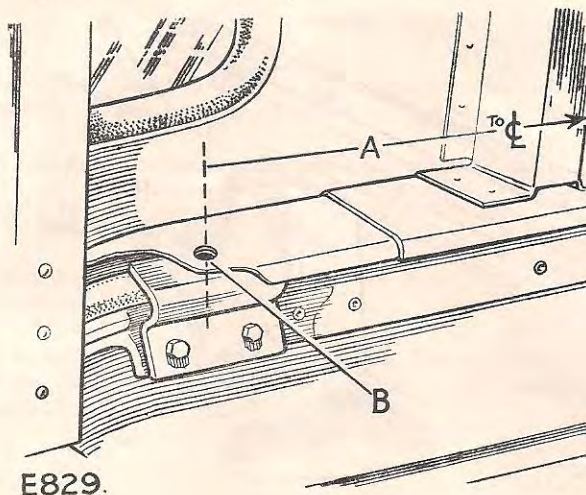

Fig. 12. Cab mounting assembly in position. R.H. illustrated.
8. Remove the outboard distance piece, securing cab to the bulkhead capping, a distance of $24\frac{3}{4}$ in. (631 mm) from the centre position of vehicle, as shown in Fig. 12.